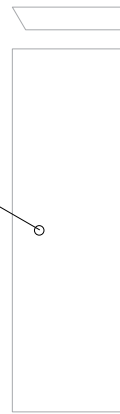

Fig. B3.03b
3. Using a Forstner bit Ø 42 mm, drill a hole **(60.2)** in the cut-to-size planking for opening the control hatch. (Fig. B3.03b)